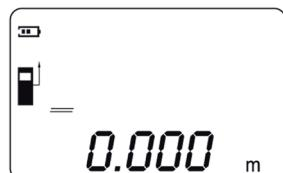

Fig. 25
- Set the thread as the measuring reference point by pressing button 6 (fig. 25).